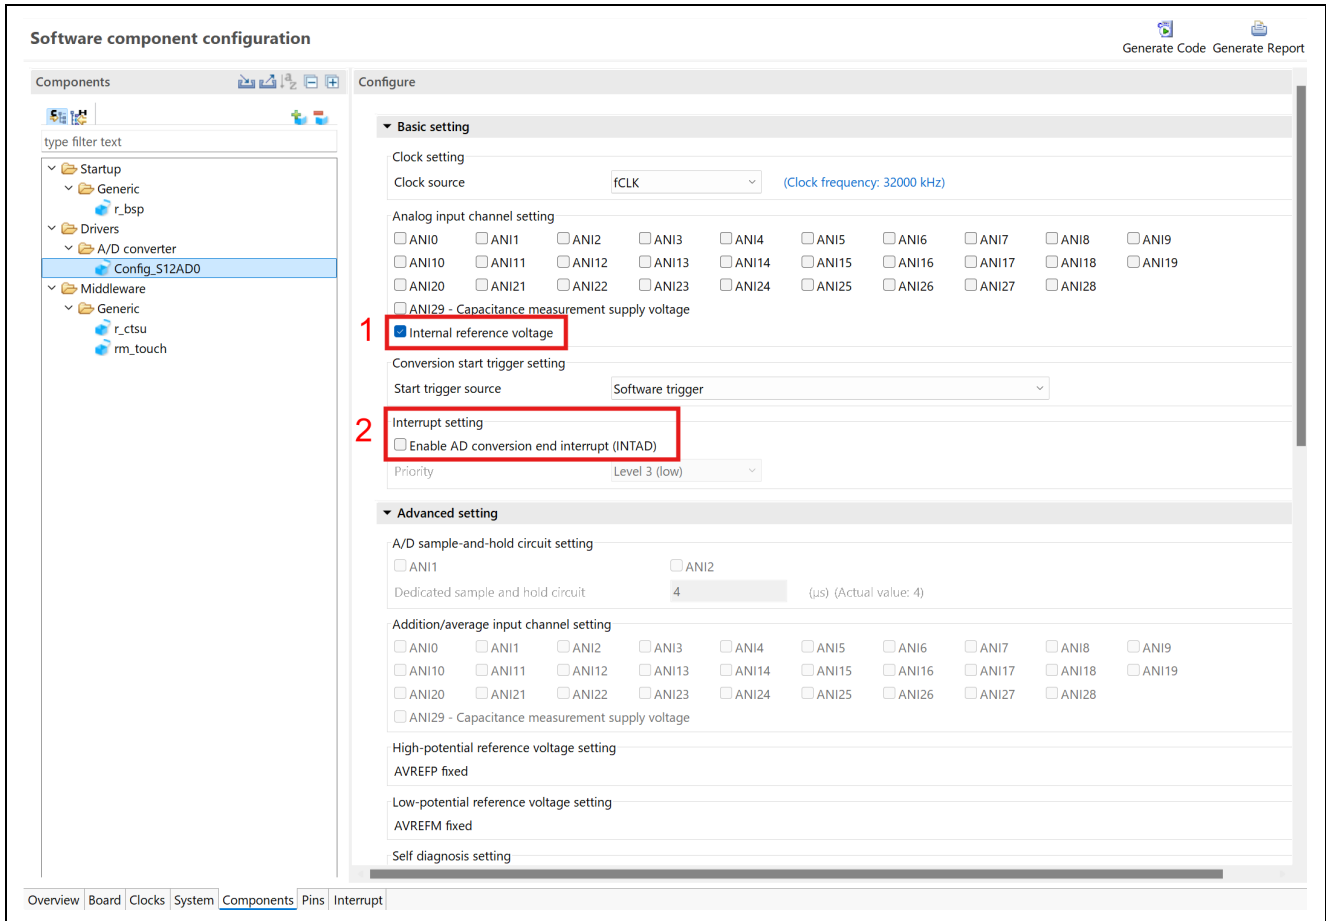
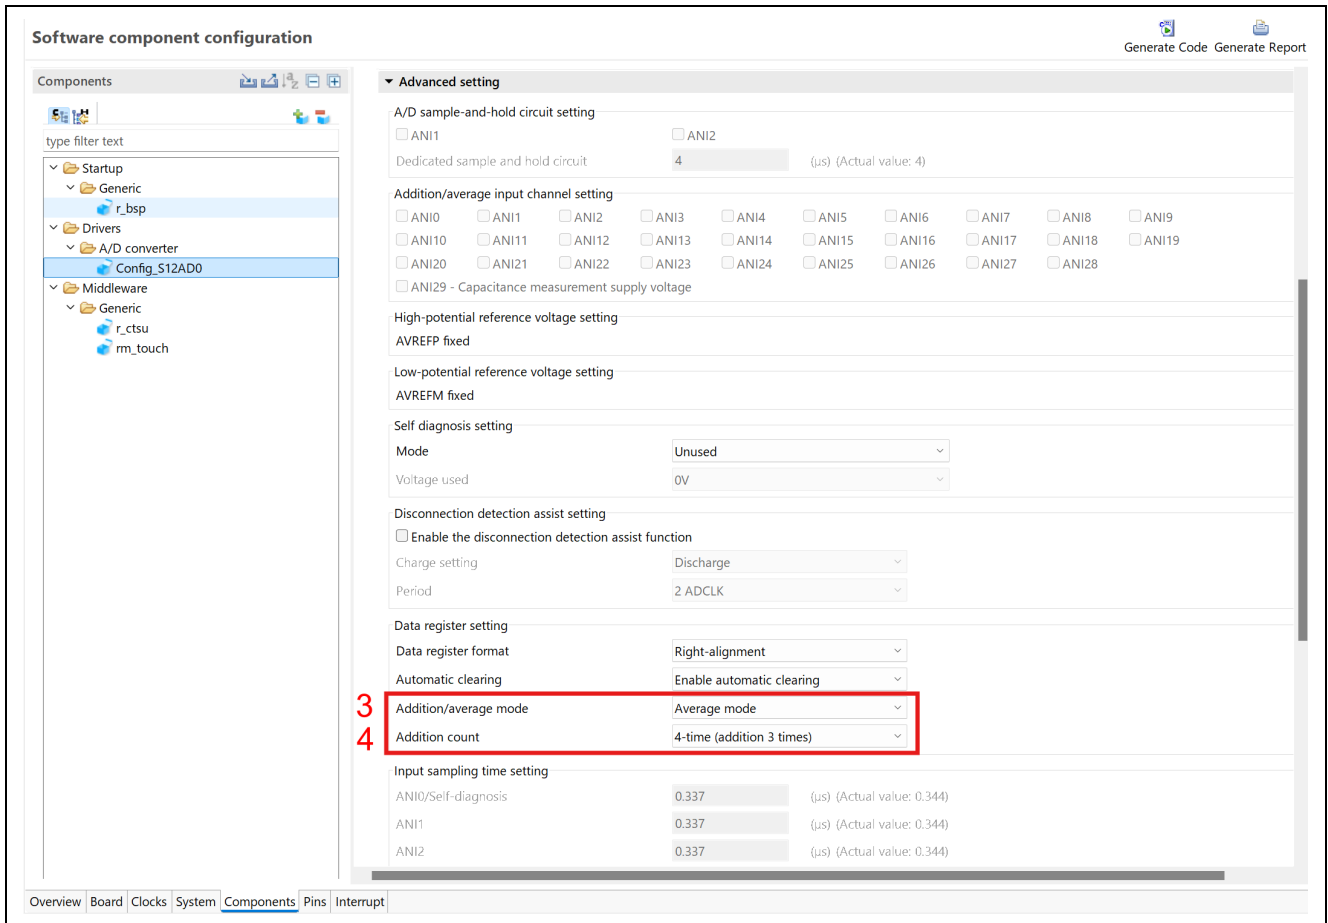

Figure 6-19 Configure ADC Driver Reference (RL78/F22, RL78F25)
Figure 6-20 Configure ADC Driver (RL78/F22, RL78F25)
8. If you are using an RL78/F22 or RL78/F25, add the 12-bit AD single-scan “Config_ S12AD0”. Change the following settings as shown in Figure 6-19 and Figure 6-20.